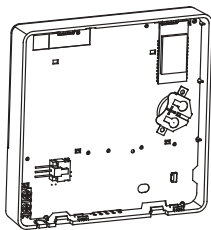

Fig 3-5
- Insert the battery into the installation compartment, ensuring that the positive side of the battery aligns with the positive side of the compartment.. (See Fig.3-5)